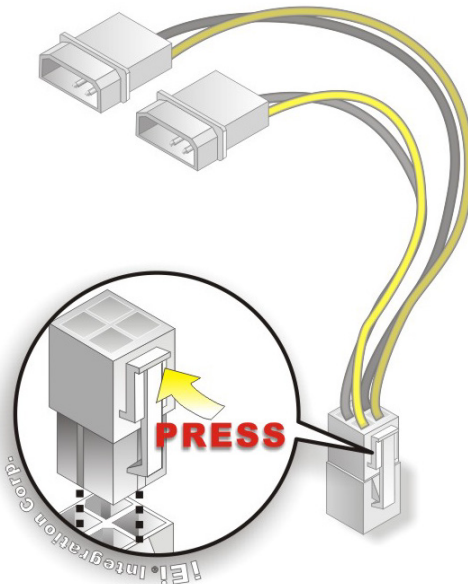

Figure 4-13: Power Cable to Motherboard Connection
Step 2: **Connect the power cable to the motherboard.** Connect the 4-pin (2x2) Molex type power cable connector to the power connector on the motherboard. See Figure 4-13.